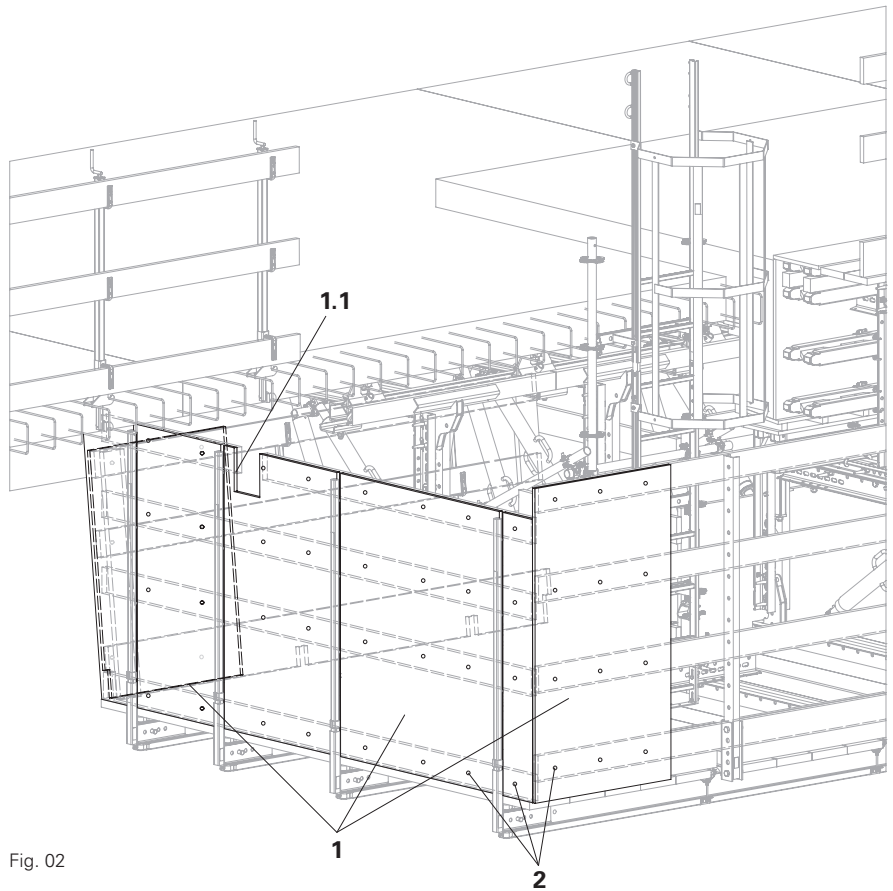

Fig. 02
- Take into consideration the recess (**1.1**) in the protection panel for the cable. (Fig. 02)
Protection panel supplied by the contractor on the three external sides of the leading and finishing platforms, e.g. consisting of 3-S panels 21 mm (**1**) with screws, e.g. TSS-Torx 6 x 40 (**2**). (Fig. 02)